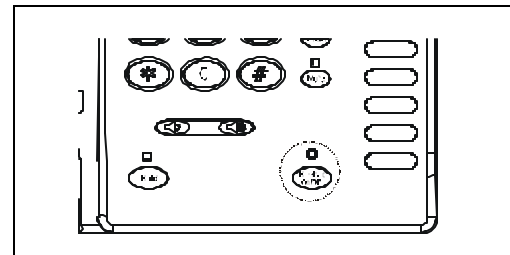

Figure 2
- ? Press the “HEADSET ON/OFF” key to activate the headset. The LED above the key will illuminate to indicate that the headset is on (figure 2).